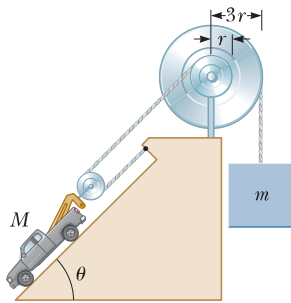

Figure P12.9
- 9.** Find the mass m of the counterweight needed to balance a truck with mass $M = 1\,500$ kg on an incline of $\theta = 45^\circ$ (Fig. P12.9). Assume both pulleys are frictionless and massless.